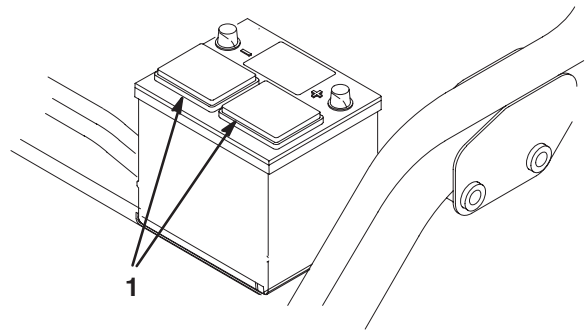

Figure 4
2. Clean the top of the battery and remove the vent caps (Fig. 4).